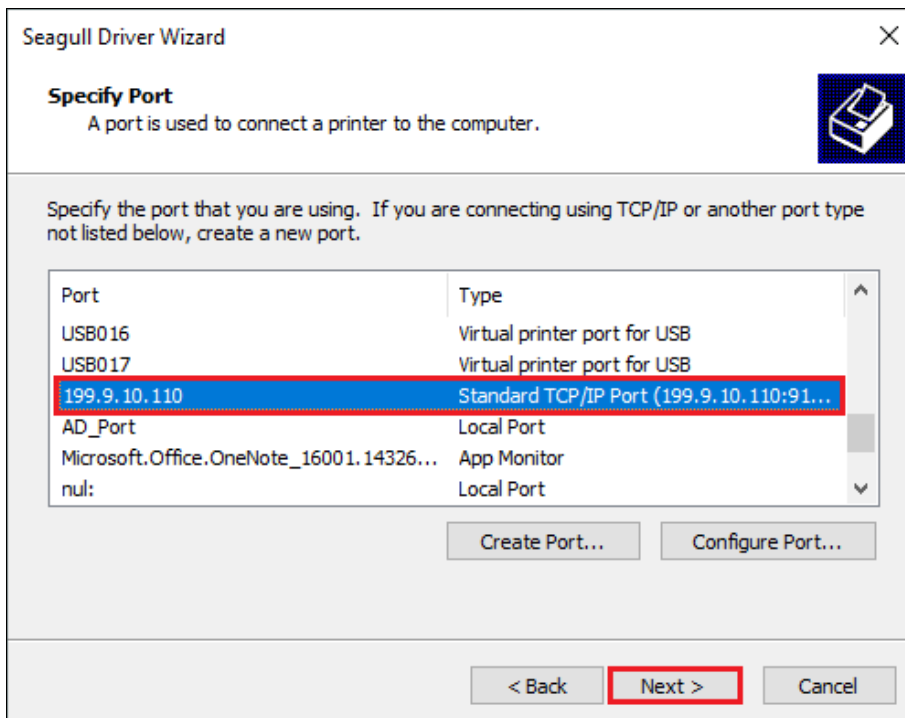

Figure 2-41 Specify Port Screen
9. Return to the “Specify Port” screen, select the TCP/IP Port that has been added, and click “Next”, as shown in Figure 2-41.